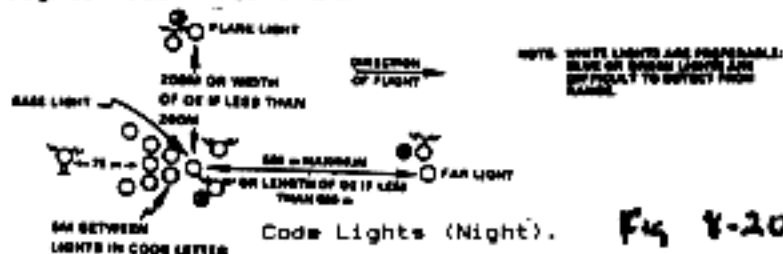

Fig B-20
(1) The procedure for marking a night drop zone is the same as a day drop zone, except incandescent lights are used (for example Mx290 lanterns). When forming the code letter with lights, all code letters are 4 lights high and 3 lights wide (figure B-20).